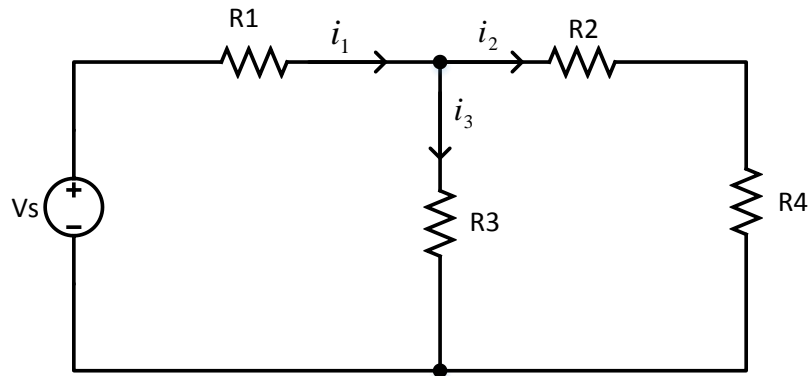

Figure 1: Circuit diagram of the system
Students will not be allowed to conduct this lab if they have not done their pre-lab. The pre-lab can be done by using one of the circuit simulator tools such as PSPICE, Multisim, etc. The circuit is composed of four resistors (R1, R2, R3 and R4) and a single voltage source as shown in Fig 1.
- Using circuit analysis theory formulate some equations which can model the behavior of the circuit in Fig. 1.
The simulated circuit (Fig. 1) should be implement on the circuit board for analysis.